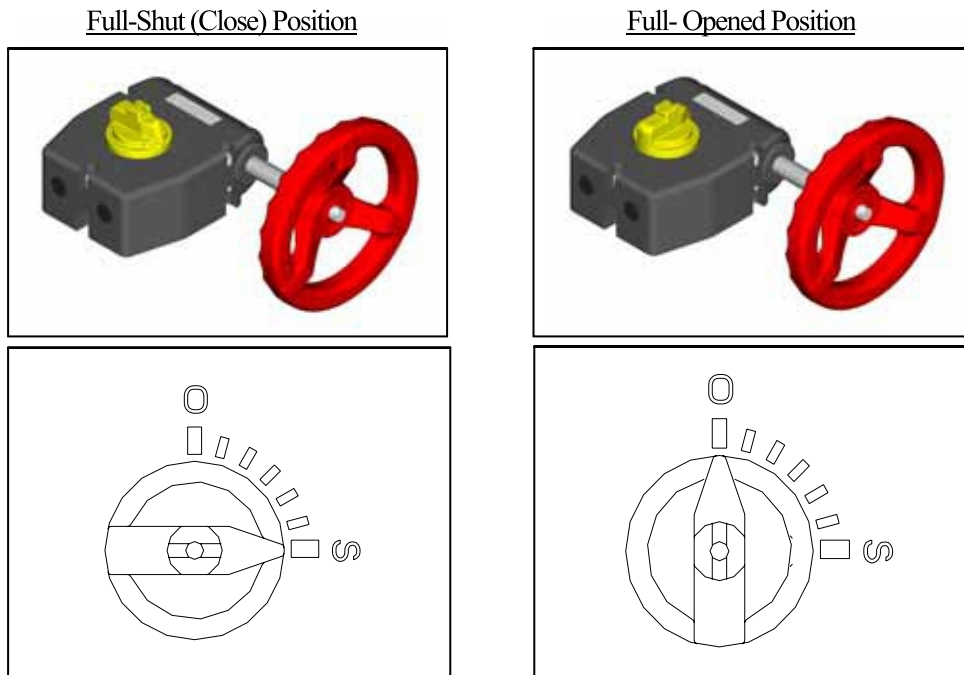

Fig. 6-2
3) In case of gear type (40-400 mm {1 1/2"-16"}), the indicator shows the position of the disc on the top of gear box. (Fig.6-2)